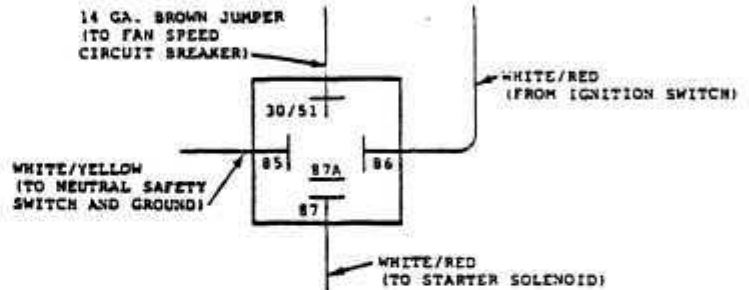

FIGURE 2
4. Disconnect the white/red wire (which had the pigtail jumper removed in Step 3) from terminal #30/51 and connect to terminal #86 (Figure 2).
5. Using 14 gage brown wire, assemble a 12 inch jumper wire with two (2) suitable female receptacles.
6. Connect one end of the brown jumper to terminal #30/51 of the starter relay (Figure 2). Connect the other terminal with the locking barb to the battery side of the 25 AMP from speed circuit breaker.
- 2) Locate and remove the blue fan fail module as indicated in Figure 2.